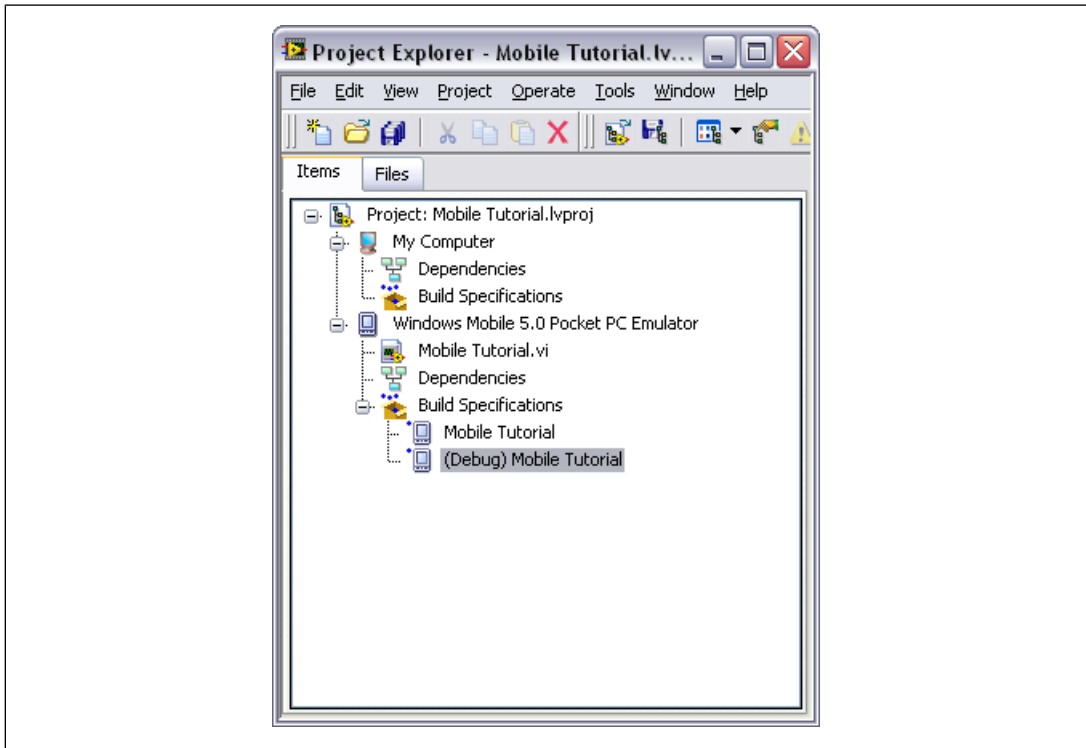

Figure 8. Two Build Specifications in the Project Explorer Window
- Click the **OK** button. The build specification you just created appears in the **Project Explorer** window, as shown in Figure 8.